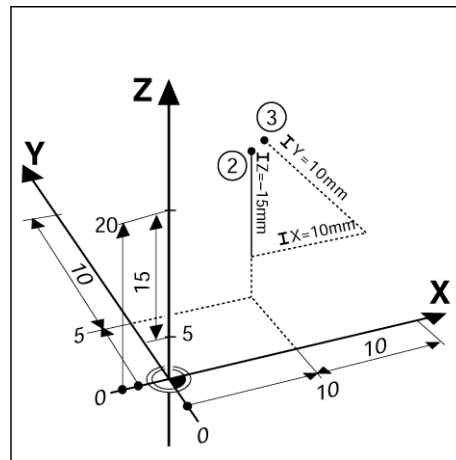

Fig. I.3 Position 3 using incremental coordinates
**Example:** Incremental coordinates of position **3** referenced to position **2**. See Fig. I.3